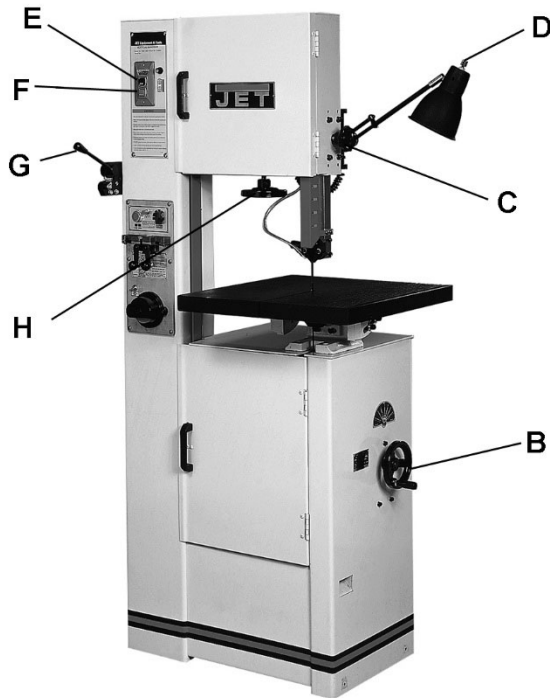

Figure 2
**Variable Speed Handwheel (B, Figure 2)** – Turn clockwise to increase speed and counterclockwise to decrease speed. **CAUTION: Do not turn handwheel while machine is stopped. Adjust speed only when machine is running.**
**Upper Blade Guide Lock Knob (C, Figure 2)** – Turn counterclockwise to loosen and clockwise to tighten.
**Work Lamp Switch (D, Figure 2)** – on top of lamp shade; turns lamp on and off.
**Main Motor Start Switch (E, Figure 2)** – Press to start band saw.
**Main Motor Stop Switch (F, Figure 2)** – Press to stop band saw.
**Shear Lever (G, Figure 2)** – UP position allows insertion of blade end into shear. Pull lever DOWN to cut blade.
**Blade Tension Handwheel (H, Figure 2)** – located on underside of upper frame. Turn clockwise to tension blade; counterclockwise to release tension on blade.